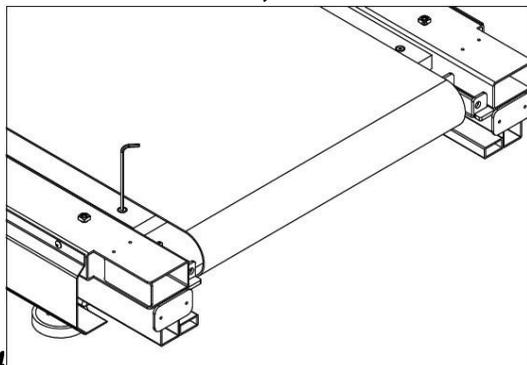
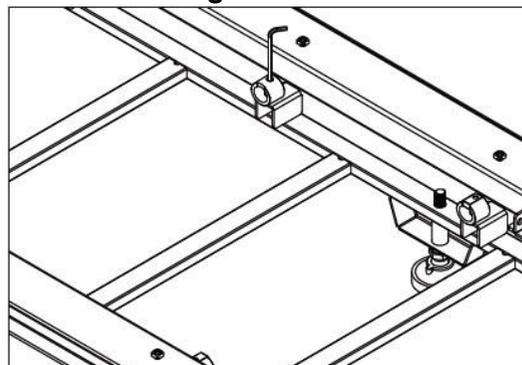

Figure 4.6.4
Figure 4.6.5
5) As shown in Figure 4.6.4, use L-type hexagonal wrench to remove the running plate fixing screw. Set off the running board and replace running board or running belt. To change the cushion, remove the 8 buffers as shown in Figure 4.6.5